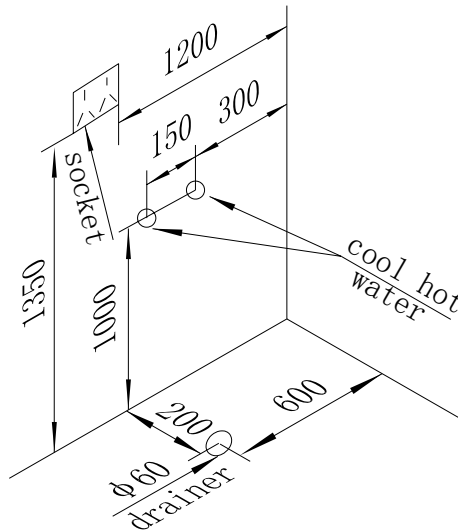

Fig. 1
1. Install inlet tubes for cool and hot water, and install the drain pipe, three-hole outlets etc at scheduled place. Fig. 1.
Join the cold and the hot water pipes and the wire connector; connect the steam pot to the outlet. (See the waterway sketch and fig.1)